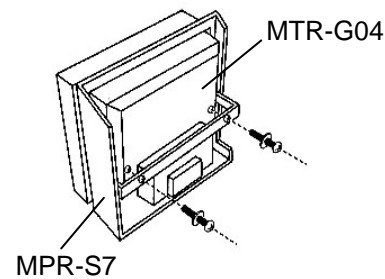

Fig. 2
- 1) Reattach the fixtures as shown in Fig. 2.
4. As shown in Fig. 2, attach the temperature recorder to the fixture with enclosed screws.